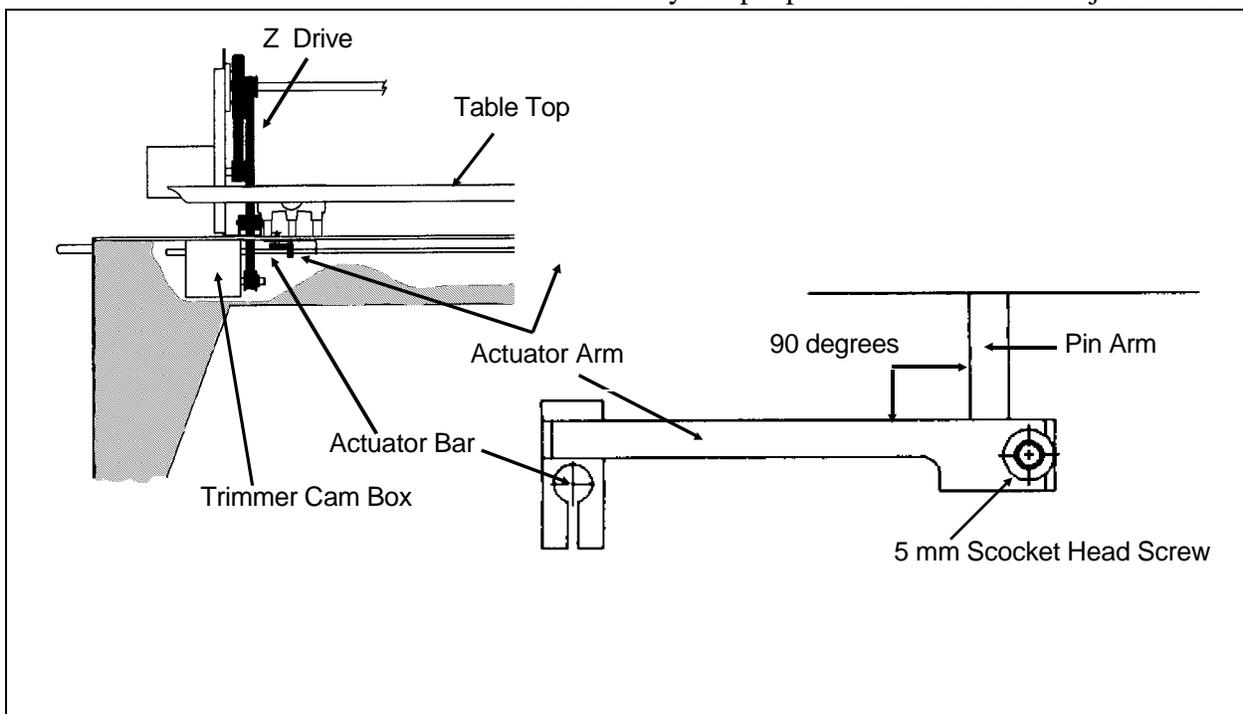

Fig. 4-12 Actuator Arm
6. Otherwise individual knives are adjusted for Home Position from the Actuator Arm under the Frame and Sewing Heads, see Fig. 4-12.
7. Loosen the 5 mm Socket Head Screw, shown in Fig. 4-12. *Do not completely remove the screw.*
9. Using a Torque Wrench, tighten the 5 mm screw with 55 in/lbs of torque making sure that it is 90 degrees to the Pin Arm, see Fig. 4-12.
1. Locate the Cam Box under the Frame and above the Power Distribution Box. See Fig. 4-12. Then locate the Trimmer Home Switch under hd# 1 adjacent to the Cam Box.